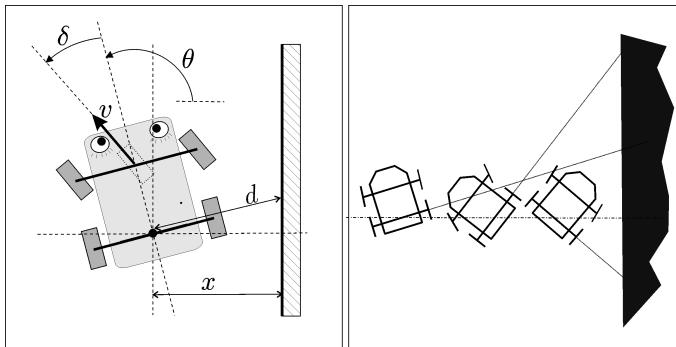

Figure 6.9: The controller imagines a simpler world than reality, with a straight vertical wall
3) We would like the car to move with a constant speed along the road. Of course, it is out of the question to involve the shape of the road in the controller, since it is unknown. Moreover, the position and orientation variables of the car are not measured (in other words we have no compass or GPS). These quantities however are often unnecessary in order to reach the given objective, which is following the road. Indeed, are we not ourselves capable of driving a car on a road without having a local map, without knowing where we are and where North is ? What we are interested in when driving a car is the relative position of the car with respect to the road. The world as seen by the controller is represented on Figure 6.9. In this world, the car moves laterally, like in a computer game, and the edge of the road remains fixed. This world has to be such that the model used by the controller has state variables describing this relative position of the car with respect to the road and that the constancy of the state variables of this model corresponds to a real situation in which the car follows the road with a constant speed. We need to imagine an ideal world for the controller in which the associated model admits an operating point which corresponds to the desired behavior of our real system. For this, we will assume that our car drives at a distance  $\bar{x}$  of the edge. This model has to have the same inputs  $\mathbf{u}$  and outputs  $\mathbf{y}$  as the real system, more precisely two inputs (the acceleration of the front wheels  $\dot{v}$  and the angular speed of the steering wheel  $\dot{\delta}$ ) and three outputs (the distance  $d$  of the center of the rear axle to the edge of the road, the speed  $v$  of the front wheels and the angle  $\delta$  of the steering wheel). Given the fact that only the relative position of the car is of interest to us, our model must only contain four state variables:  $x, \theta, v, \delta$ , as represented on the figure. One must be careful though, since the meaning of the variable  $x$  has changed since the